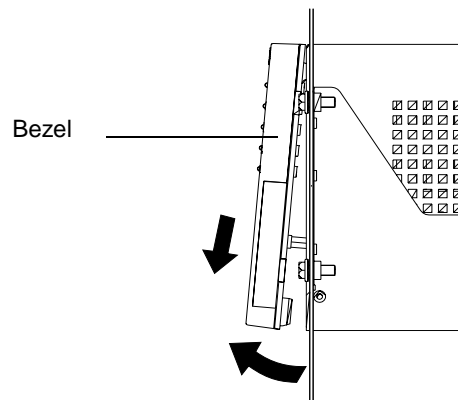

Figure 6. Removing the controller unit bezel
To access the controllers, battery, controller fan, and indicator lights, you must remove the controller unit bezel, as shown in Figure 6.
- 1** To view the indicator lights, remove the controller unit bezel, as shown in Figure 6 on page 11.